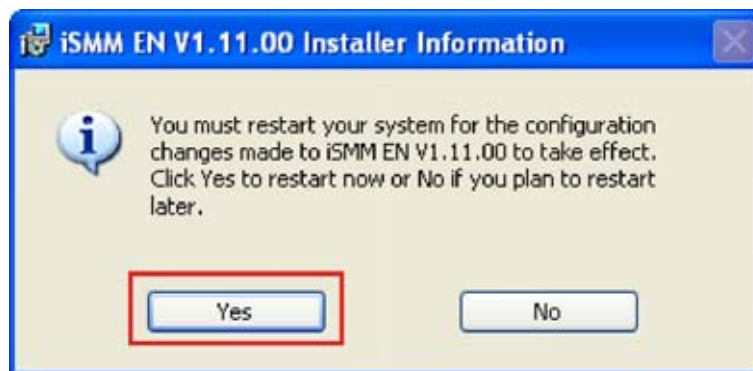

Figure 7-37: iSMM Restart Confirmation
Step 85: The **Restart Confirmation** screen appears.(Figure 7-37)